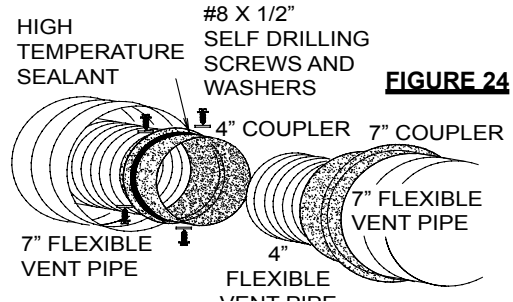

FIGURE 24
8. If more vent pipe needs to be used to reach the fireplace, couple them together as illustrated. The vent system must be supported approximately every 3 feet for both vertical and horizontal runs. Use noncombustible strapping to maintain the minimum 1" clearance to combustibles. Figure 24.